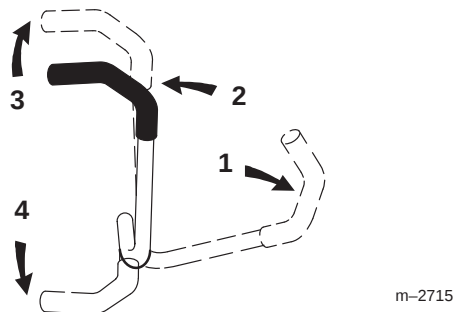

Figure 18
3. To go forward, slowly push the motion control levers forward (Fig. 18).
To go straight, apply equal pressure to both motion control levers (Fig. 18).
To turn, release pressure on the motion control lever toward the direction you want to turn (Fig. 18).
2. To go backward, slowly pull the motion control levers rearward (Fig. 18).